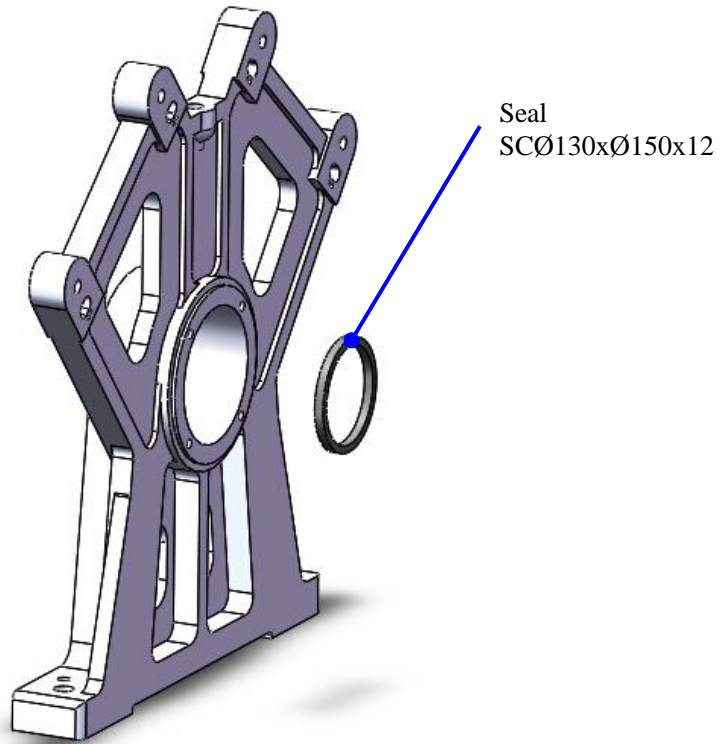

Figure 65: Install oil seal in pedestal
8. Put grease in the oil seal SC $\varnothing 130 \times \varnothing 150 \times 12$. Install it in the pedestal body. See Figure 65.